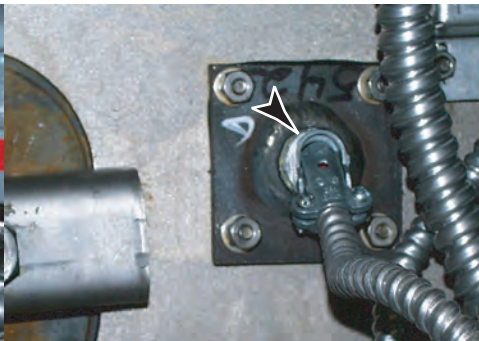

Fig.2
2. Install Switch Assembly(item 1) using gasket and hardware from step 1(see Fig.2).
3. Install 45 Degree Greenfield Connector (item 2) to Switch Assembly as shown (see Fig.2).